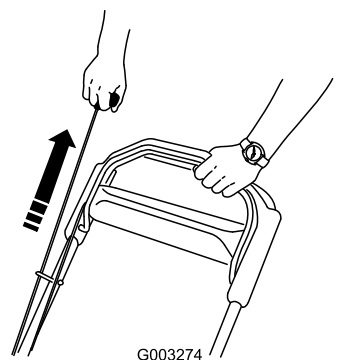

Figure 19
3. Pull the recoil starter (Figure 19).